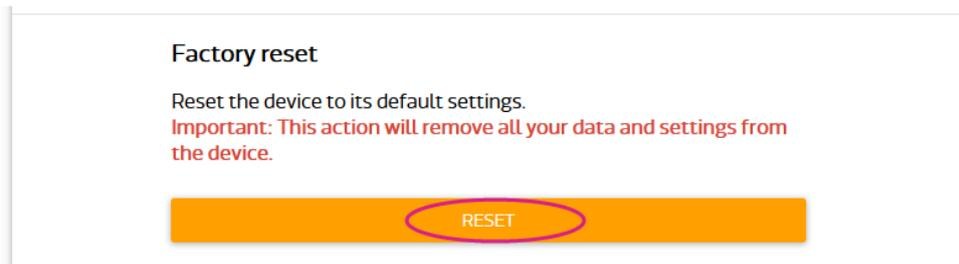

Figure 28 Factory Reset using LinkIt Smart 7688 Web UI
- 1) Sign in the Web UI, refer to section 4.5.3, “Connecting to the Web UI”, under Factory reset, click **RESET**, as shown in Figure 28.